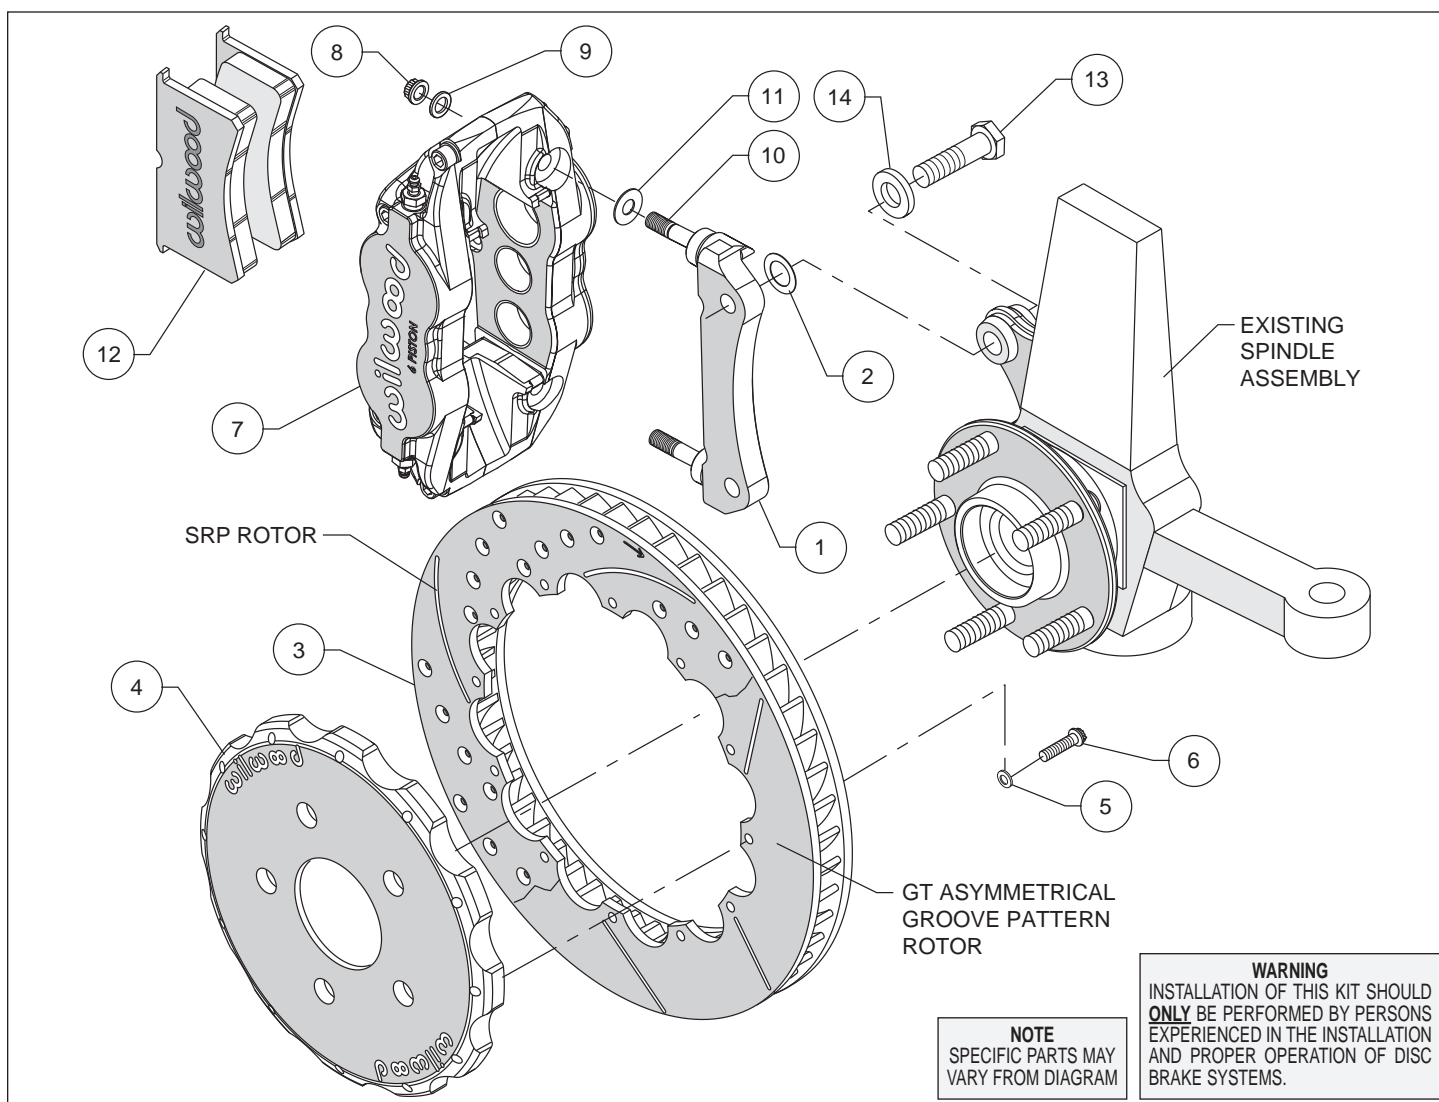
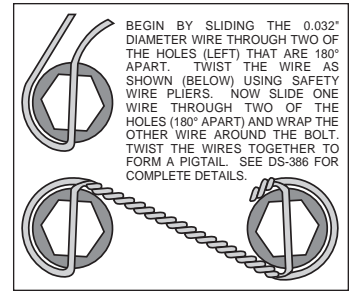

Figure 1. Typical Installation Configuration
Figure 3. Safety Wire Diagram
Assembly Instructions (numbers in parenthesis refer to the parts list and Figure 1 on the preceding pages):
- The caliper mount bracket (1) should initially be installed with clean, dry threads on the mounting bolts. Orient the bracket, as shown in Figure 1 and install using bolts (13) and washers (14). Initially place one .029" thick shim (2) on each bolt between the bracket and upright, Figure 1. Temporarily tighten the mounting bolts. **NOTE:** The bracket must fit squarely against the mount bosses on the upright. Inspect for interference from casting irregularities, machining ridges, burrs, etc. Later, after the caliper alignment has been checked, the mount bolts will be secured using red *Loctite*® 271.
- Orient the rotor (3) and the hat (4) as shown in Figure 1 and Photo 1. Attach rotor to hat using bolts (6) and washers (5). Using an alternating sequence, apply red *Loctite*® 271 to the threads, and torque to 155 in-lbs. For an added measure of security, the bolts may be safety wired using standard 0.032 inch diameter stainless steel safety wire as shown in Figure 3. Refer to Wilwood's data sheet DS-386 (available at www.wilwood.com/Pdf/DataSheets/ds386.pdf) for complete safety wire installation instructions.
- NOTE:** This kit contains distinct right and left hand calipers that must be mounted in a specific direction, as described below. Lubricate the caliper mounting studs (10) with lightweight oil. Initially place one .035" thick shim (11), on each stud as shown in Figure 1 and Photo 2. Mount the caliper (7) onto the bracket (1) using lock nuts (8) and washers (9), Figure 1. Ensure that the caliper is mounted so that the largest pistons are at the rotor exit end of the caliper, in relation to the direction of rotor rotation. Temporarily tighten the lock nuts and view the rotor through the top opening of the caliper. The rotor should be centered in the caliper, Photo 3. If not, adjust by adding or subtracting shims (2) between the bracket and the upright. Always use the same amount of shims on each of the two mounting bolts. Once the caliper alignment is correct, remove the bracket mounting bolts (13) one at a time, apply red *Loctite*® 271 to the threads, and torque to 77 ft-lb.